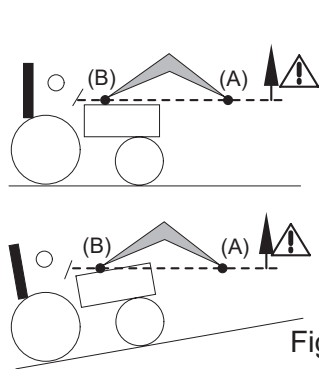

Fig. 2
- During a lifting operation and when moving, keep your eyes on the load from when the implement's pivot point (A) passes the horizontal of the loader's pivot point (B) (see Fig. 2). If necessary, correct the implement's position so that the load is never directed towards the driver (see Fig. 3).
**! DANGER:** If the load is not properly secured, there is a risk of the load falling when the implement pivot point (A) exceeds the horizontal of the loader pivot point (B) (see Fig. 2).
**DANGER:** It is prohibited to crowd the loader when the implement pivot point (A) exceeds the horizontal of the loader pivot point (B) (see Fig. 2).